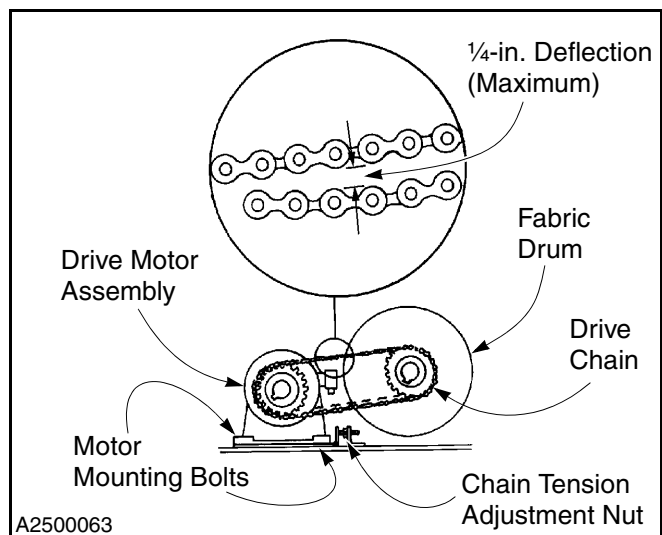

Figure 53
- Verify the amount of tension in the drive chain. A correctly tensioned chain will deflect no more than $\frac{1}{4}$ in. (See Figure 53.)